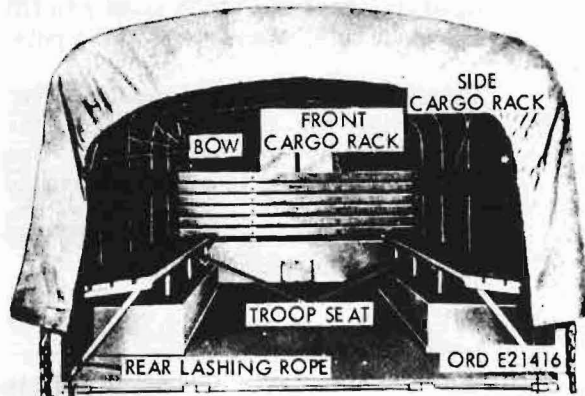

Figure 170. M34 cargo body interior, showing bows
a. M34. The M34 truck is provided with 12-foot, open top steel body. The endgate, hinged at the bottom, provides a step for entering the body when the gate is lowered. The gate is raised and locked for travel. Sockets in sides and front of the body permit installation of cargo racks. Tubes in the side racks provide sockets to accommodate bows (fig. 170) for support of the paulin and end curtains (fig. 171). The lower portion of the side racks are hinged at the bottom and can be lowered onto the rear wheel housings for use as troop seats. The end curtains have flaps that can be opened for ventilation. Paulin sides can be folded up and strapped in place for side ventilation.